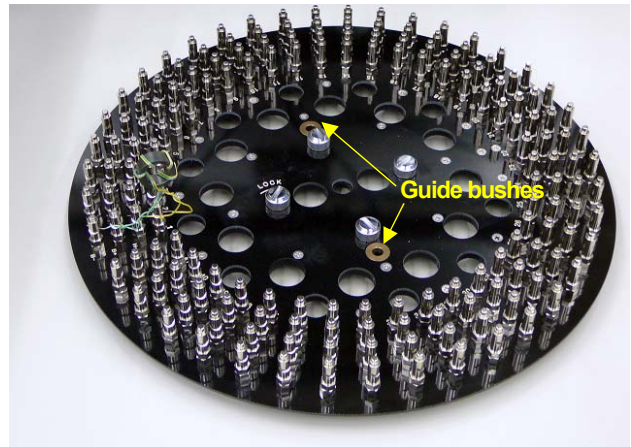

Fig.3-5 Installation of turn table
① While inclining the turn table to the lower left a little, insert the left end of it into the groove of the contact holder and align two guide bushes with the guide pins (see Fig.3-5, 3-6, and 3-7).